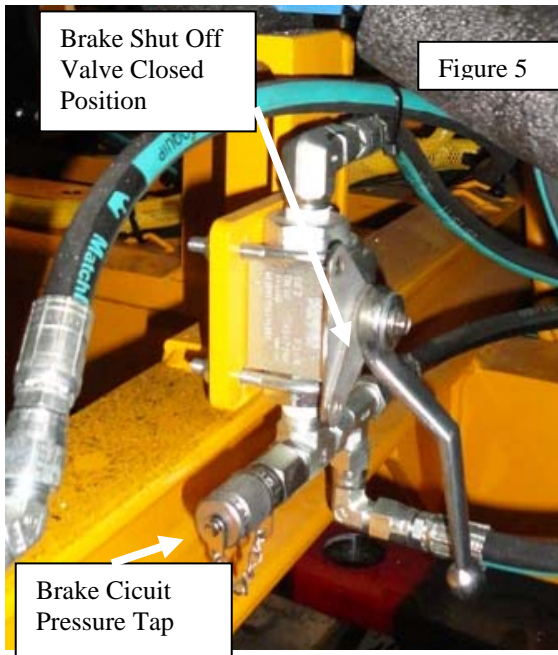

Figure 5
2. Close the Brake Shut Off Valve (Figure 5) on the machine's right side and lock in the CLOSED position. (CLOSED is perpendicular to the hose line, OPEN is parallel to the hose line.)
3. Attach one end of the hose (found in the toolbox) to the hand pump. Attach the other end of the hose to the brake circuit pressures tap (Figure 5).